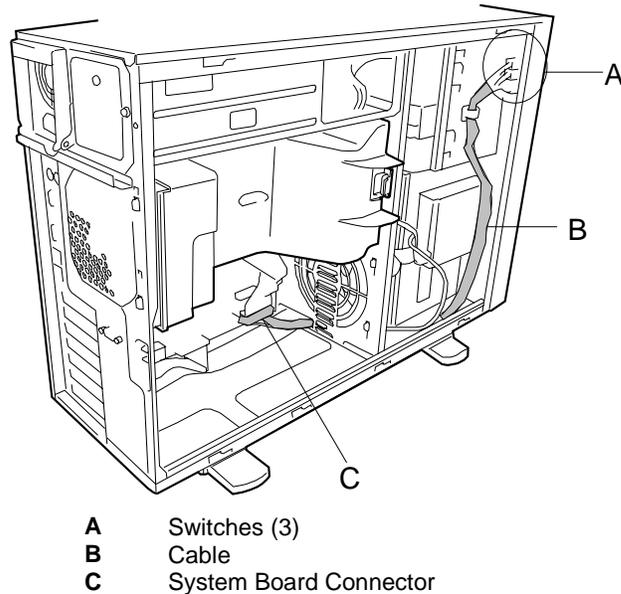

Figure 4-59. Replacing the LED/Switch Assembly
4. Remove the power switch, reset switch and dump switch from the front of the chassis. To release these switches, squeeze their two plastic snap tabs together and slide the switch back until it is free of the chassis. See Figure 4-59, A.
5. Tag and disconnect the LED/Switch Assembly cable (Figure 4-59, B) from its mating connector on the system board. See Figure 4-59, C. Carefully remove the LED/Switch assembly from the system.